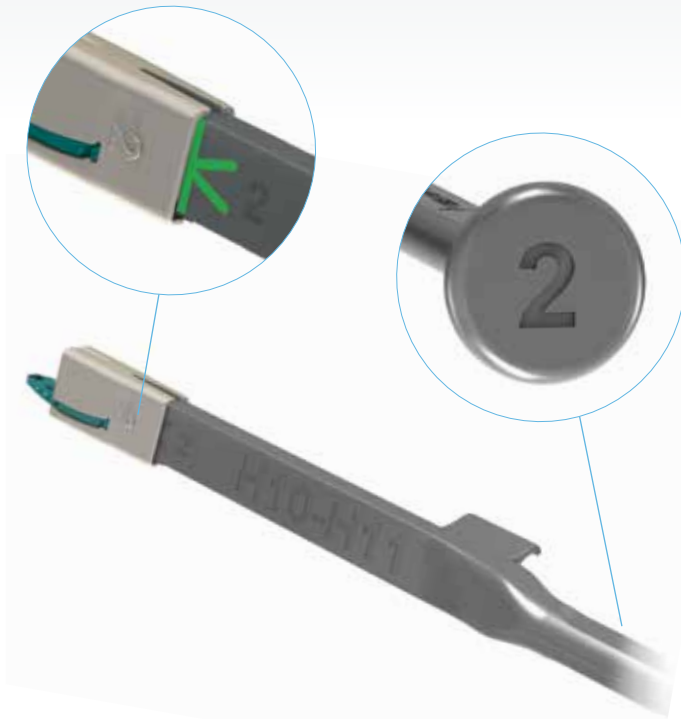

Figure 45
- Insert the second holder with face number "2" facing the K mark on impactor N°2 and proceed in the same way as for the first anchoring clip (**Figure 45**).